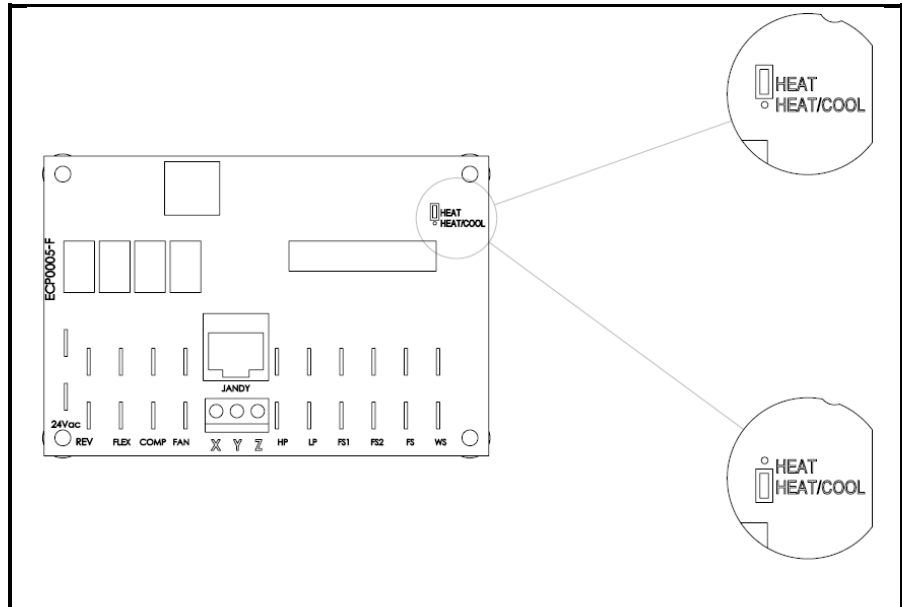

Figure 17
- 5) Remove and reposition jumper located at the upper right hand corner of control board. See Figure 17. Jumper must cover middle and lower pin as shown for "Heat and Cool".